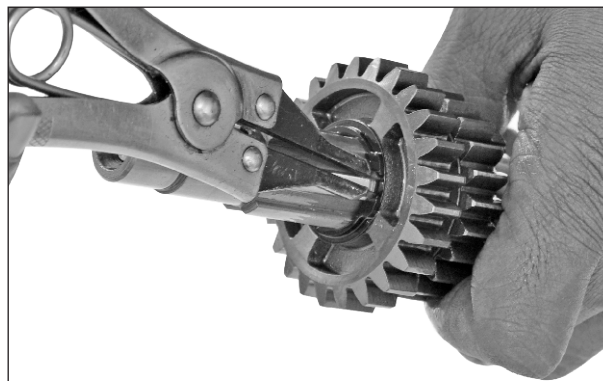

Fig. 3.162
- Remove the circlip (20x1.2). (Fig. 3.162)